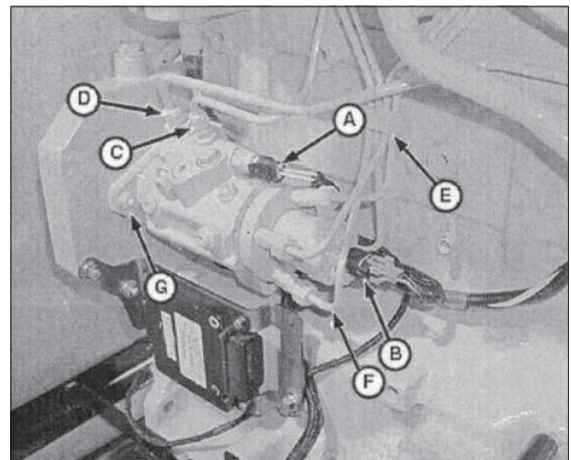
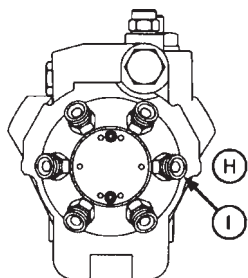

Figure 21 Reproduced by permission of Deere & Company, c.2004. Deere & Company. All reserved.
Figure 25 Reproduced by permission of Deere & Company, c.2004. Deere & Company. All reserved.
7. Remove the temperature sensor connector (Fig. 21 A) and the fuel control solenoid connector (B).
8. Disconnect the fuel supply line (Fig. 21 D) and return line (C). Remove the clamp (E) holding the fuel delivery (pressure) lines (F).
9. Disconnect all the fuel delivery lines (Fig. 21 F) from the injection pump and install protective caps.
10. Remove the three injection pump mounting stud nuts (Fig. 21 G). Remove the pump and place it on a clean level surface and with good lighting inspect the shaft outside diameter for metal transfer caused by gear slippage. Inspect the inside diameter of the injection pump drive gear for the same. If there is evidence of metal transfer on the pump shaft OD or the drive gear ID, the injection pump and drive gear must be replaced.
8. Connect the injection pump fuel delivery (pressure) lines (Fig. 21 F). Begin with the outlet connection to No. 1 cylinder (Fig. 25 I) and continue around the pump head in a counterclockwise direction. Attach lines in the same order as the engine firing (1-5-3-6-2-4 on 6 cylinder engines).
10. Put the clamp back (Fig. 21 E).
11. Connect the fuel supply line (Fig. 21 D) and fuel return line (C).